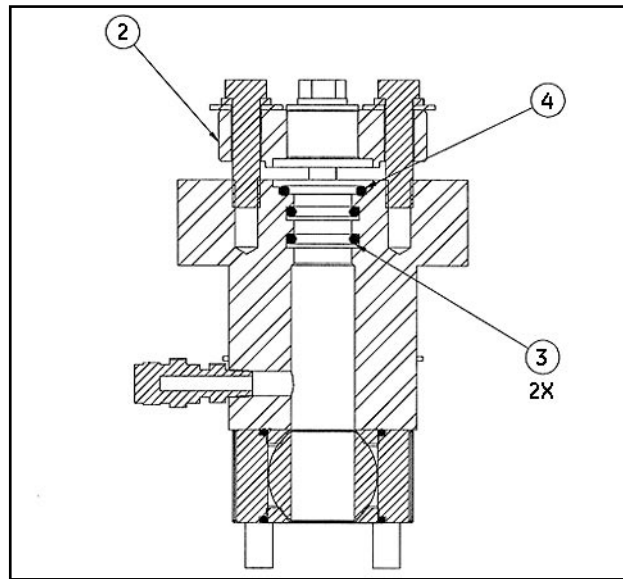
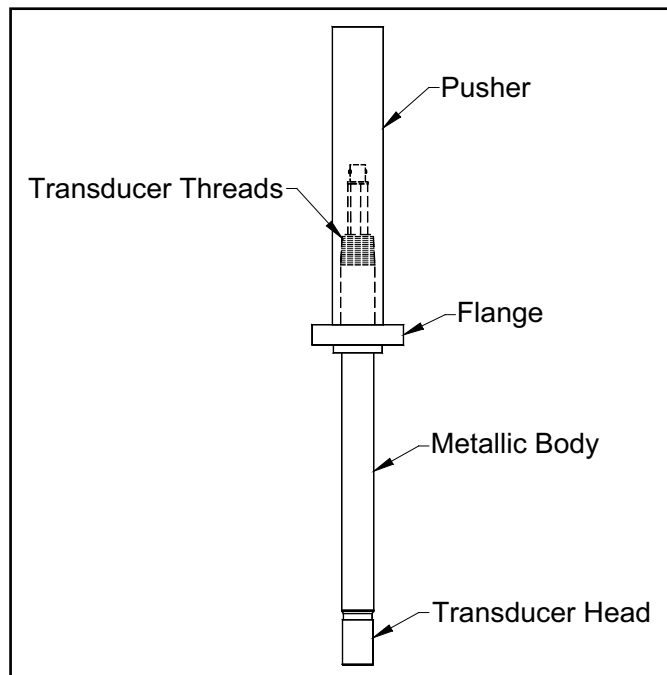

Figure 85: Holder Cross-Section - O-Ring Placement
Figure 86: T11 Transducer and Pusher
1. Lubricate and install three new o-rings in the T11 holder (see *Figure 85 below and Table 11 on page 101*).
3. Apply anti-seize lubricant to the new T11 transducer NPT threads, then assemble a T11 pusher onto the new transducer (see *Figure 86 on page 103*).
4. Lubricate the shaft of the transducer with spray lubricant that is safe for the o-rings. Then, insert the transducer into the meter body holder, while carefully pressing the transducer head past the radial o-rings (see *Figure 85 above and Figure 86 on page 103*).